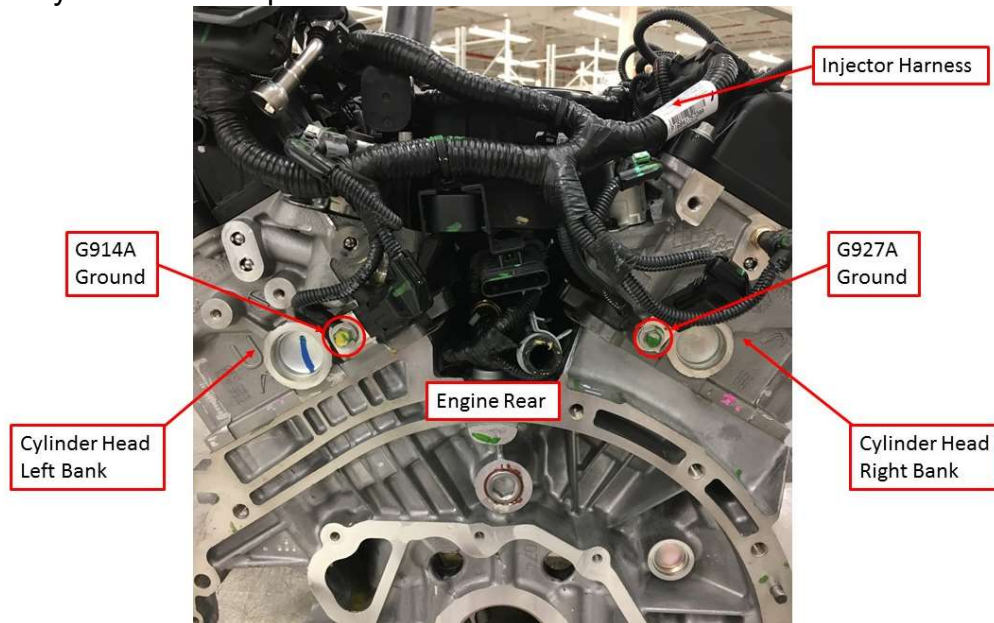

Fig1
- If one or more of DTC's P1050, P1053, P1052, P1055, P0010, and P0013 sets, inspect the G927A ground location (Engine Rear) on the injector harness as shown in **Fig1** for any looseness or damaged ground eyelet. Follow repair instructions below.
- If one or more of DTC's P1056, P1059, P1058, P105B, P0020, and P0023 sets. Inspect the G914A ground location (Engine Rear) on the injector harness as shown in **Fig1** for any looseness or damaged ground eyelet. Follow repair instructions below.